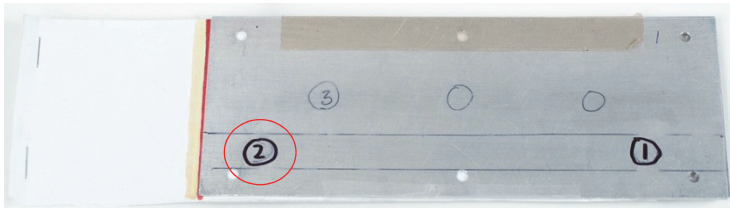

Figure 5-103 Position 2 on the standard
7. Place the probe on position 2 (see Figure 5-103 on page 200), and then press the FREEZE key (❄).